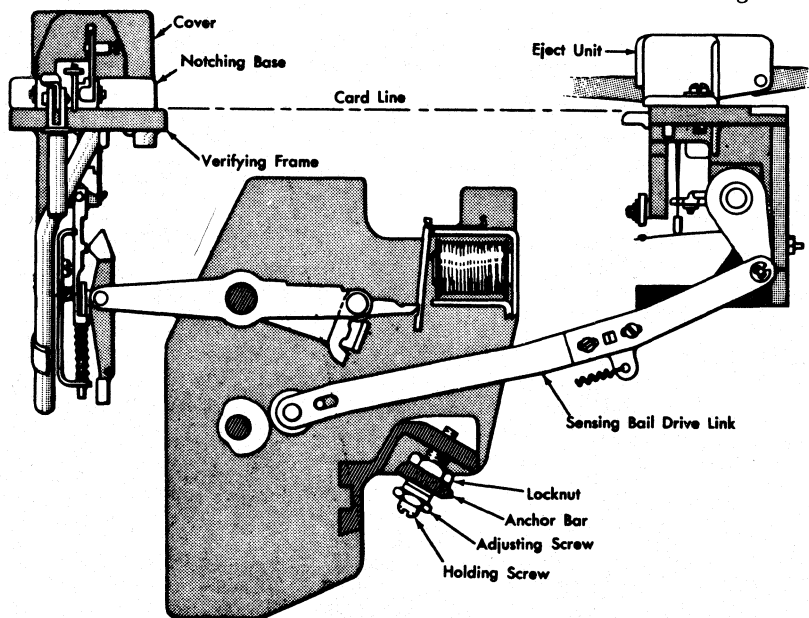

Figure 52. Verifier Drive Unit Timing
Test drive unit timing before readjustment. Sometimes only a slight change is necessary to correct a condition and considerable time will be saved by avoiding unnecessary alterations. The timing adjustment corresponds to the punch penetration adjustment on the IBM 24 and is made with the adjusting screw in the anchor bar (Figure 52).
3. Loosen lock nut and holding screw, and turn adjusting screw to obtain correct timing (Figure 52).